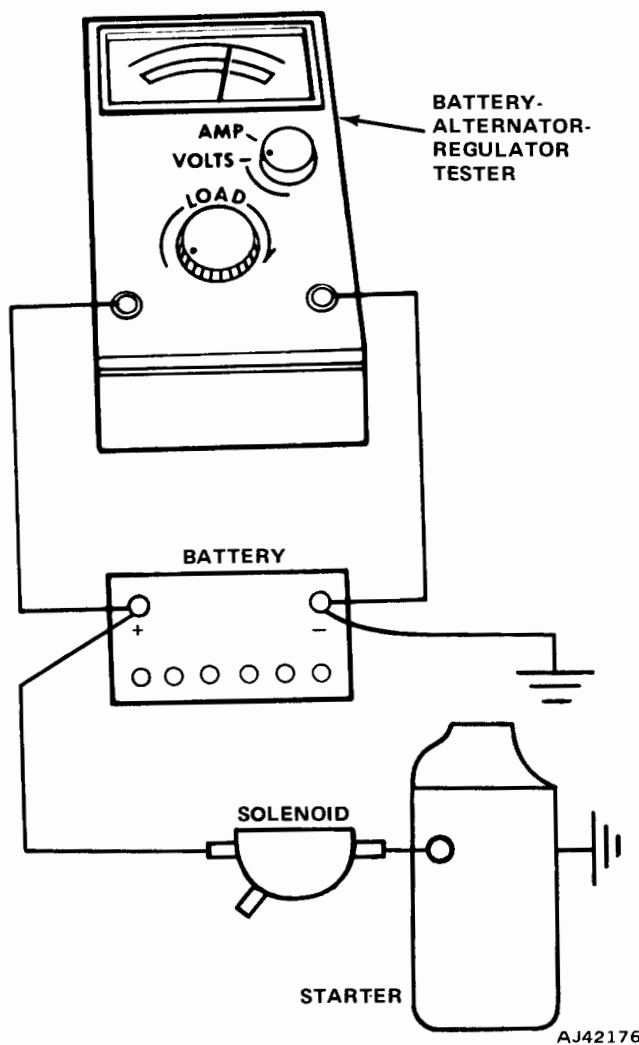

Fig. 3-39 Starter Motor Current Draw Test
(2) Disconnect and ground ignition coil secondary wire.
(3) Connect a remote control starter switch between positive battery terminal and S-terminal of the starter solenoid.
(4) Connect battery-starter tester leads as shown in figure 3-39. Operate remote control starter switch and read voltage indicated on voltmeter while starter is cranking engine.